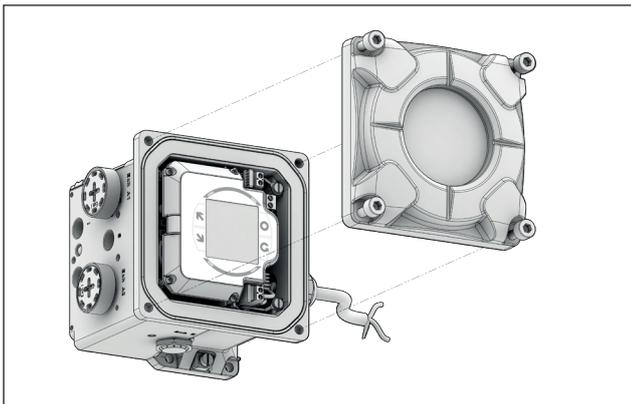
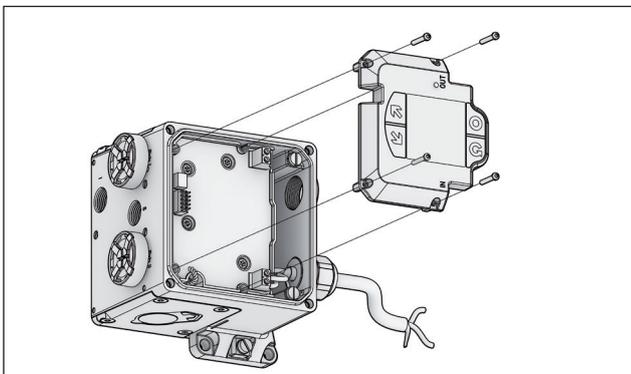

Fig. 91. NDX\_511\_ e NDX\_512\_
Fig. 92. NDX1510\_
- Solte os parafusos do visor e remova o visor. (Fig. 91, Fig. 92)